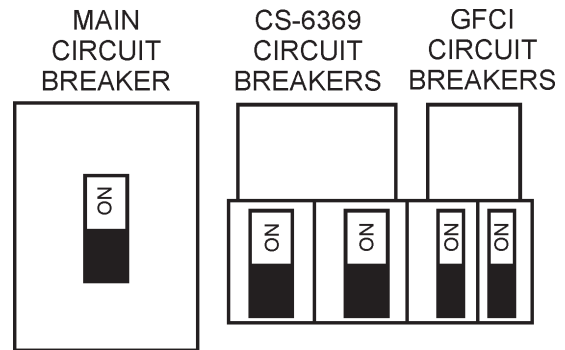

Figure 51. Main, AUX. and GFCI Circuit Breakers (ON)
11. Turn the **main**, **GFCI**, and **aux.** circuit breakers to the **ON** position (Figure 51).